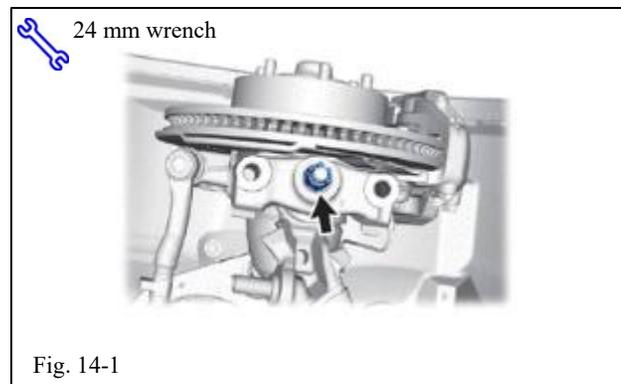

Fig. 14-1
- 14. Remove the cotter pin, loosen nut and leave on thread to catch spindle. Once spindle is removed discard cotter pin and nut (Fig. 14-1).